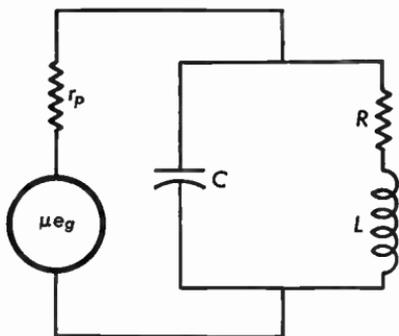

Fig. 6.03 Equivalent circuit of a tuned-plate oscillator.
6.03 The circuit of Figure 6.03 is the equivalent circuit of a tuned-plate oscillator. The inductance is 100 microhenries with an effective resistance of 50 ohms. The capacitance is 100 micromicrofarads and the plate resistance is 9500 ohms. Find the value of the resonant frequency